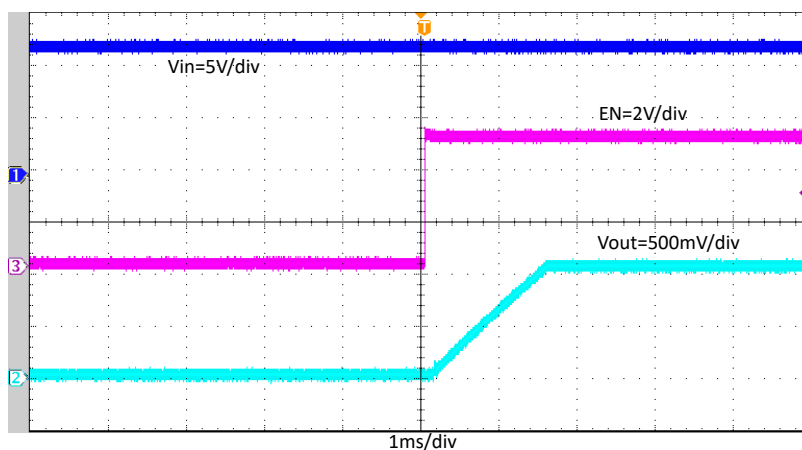

Figure 4-10. TPS564242EVM Start-Up Relative to EN
The TPS564242EVM start-up waveform relative to enable (EN) is shown in Figure 4-10. Load is 4 A.